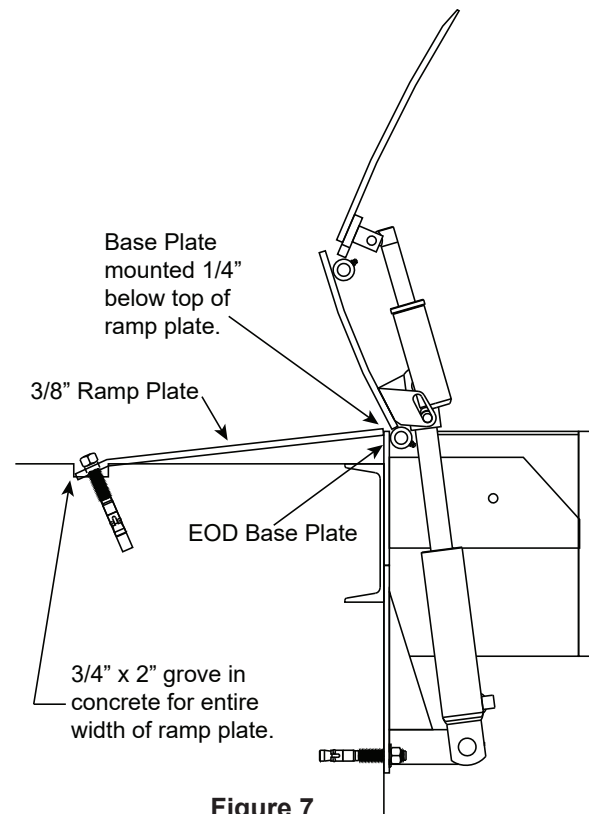

Figure 7
3. At the points marked to each side of center, measure and mark points 8" below the desired dock level, subtracting the height the unit is to be raised to locate bottom of base plate. This will locate the top of the base plate X" above dock level. See **Figure 7**.
9. Break tack welds holding ramp in place, slide ramp plate back into position with the top of the ramp plate 1/4" higher than top of base plate. See **Figure 7**. Tack weld each end and center of ramp plate to base plate.
1. Top of base plate to be 1/4" below the top of ramp plate to provide a smooth transition. Bumper is to be flush with top of ramp plate. See **Figure 7**.